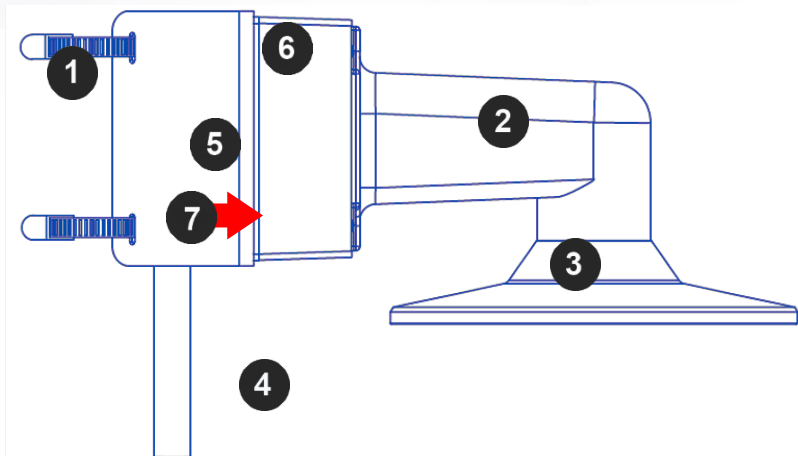

Figure 2: Attach wall mount adapter to pole mount adapter
6. Attach the Wall Mount Adapter (AV-WMJB-W) with mount cap (SO-CAP-W) to the Pole Mount Adapter (AV-PMA-W) as shown in Figure 2.